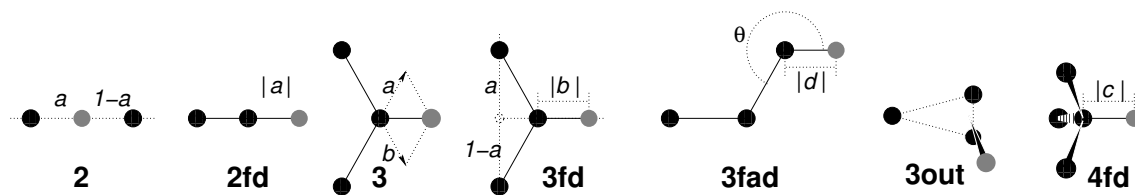

Fig. 5.34: The seven different types of virtual site construction. The constructing atoms are shown as black circles, the virtual sites in gray.
computation involved increases sharply along this list, so we strongly recommended using the first adequate virtual site type that will be sufficient for a certain purpose. Fig. 5.34 depicts 6 of the available virtual site constructions. The conceptually simplest construction types are linear combinations:
- As a linear combination of two atoms (Fig. 5.34 2):
- On the line through two atoms, with a fixed distance (Fig. 5.34 2fd):
- As a linear combination of three atoms (Fig. 5.34 3):
- In the plane of three atoms, with a fixed distance (Fig. 5.34 3fd):
- In the plane of three atoms, with a fixed angle and distance (Fig. 5.34 3fad):
- As a non-linear combination of three atoms, out of plane (Fig. 5.34 3out):